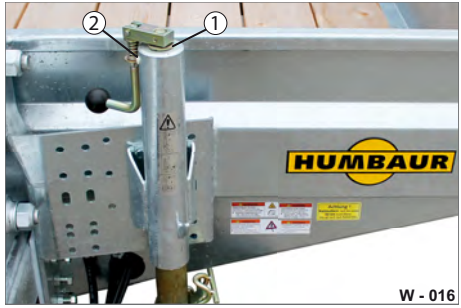

Fig. 7 Clean/oil support wheel
- ▶ Clean contamination off the support wheel and oil the support wheel via the oil gap (Fig. 7/1) if necessary.